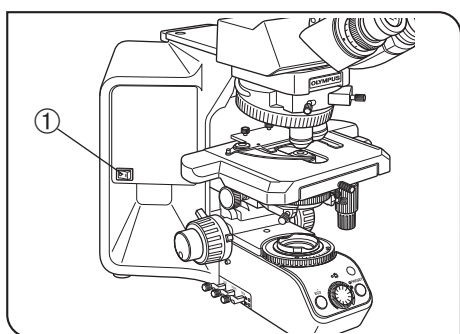

Fig. 1
(Fig. 1)
6. To avoid potential shock hazards and burns when replacing the light bulb, set the main switch ① to “○” (OFF) then disconnect the power cord from the wall outlet in advance. Whenever you replace the bulb during use or right after use, allow the lamp housing, and bulb to cool before touching. (Fig. 1)